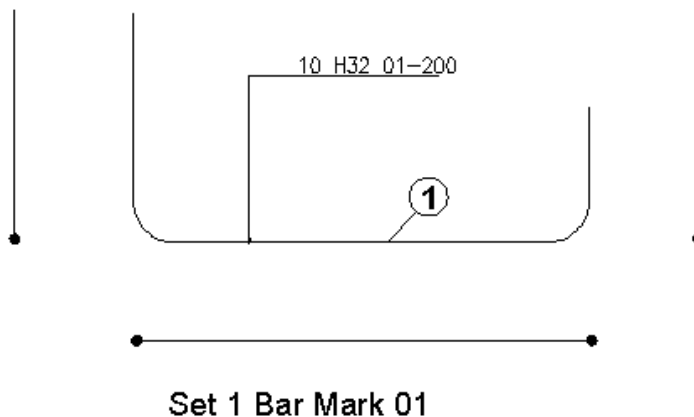

Figure 7.2.4:1 Editing the properties of Shape Code 21
4. Make the Viewport on *Edit Single Bar (01)* current
9. Select **CADS RC** → **Editing** → **Edit Bars** or  or double click the bar as marked by point 1 in figure 7.2.4:1 below